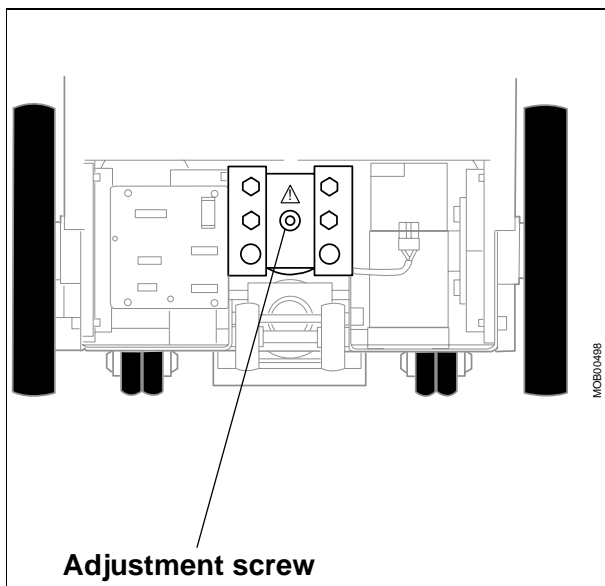

Fig. 6
- Adjust the arm system with the adjustment screw (Fig. 6), until it balances in all positions.